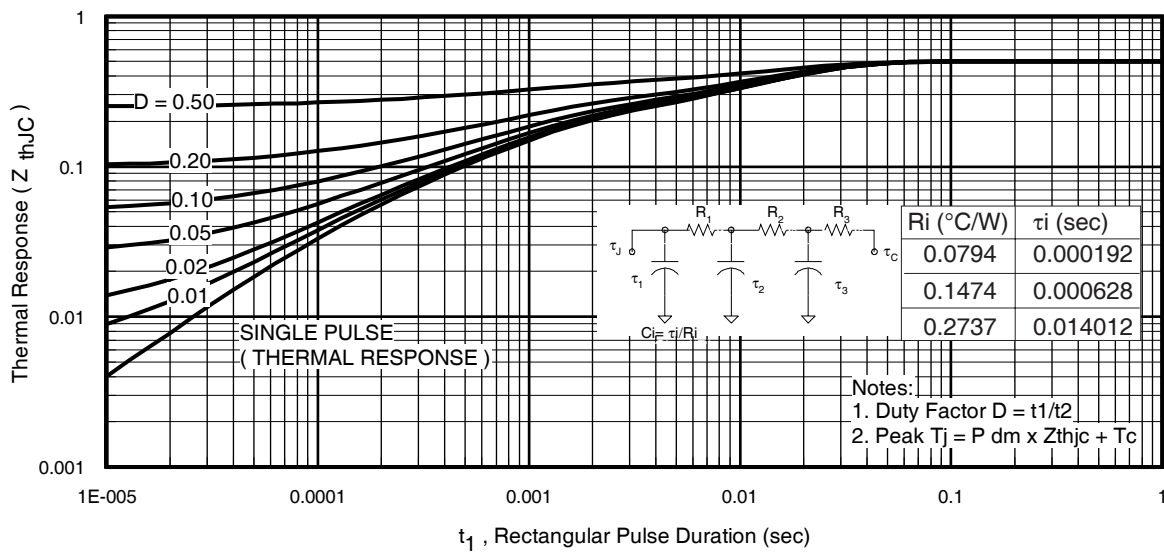

Fig 11. Maximum Effective Transient Thermal Impedance, Junction-to-Case
- ① Repetitive rating; pulse width limited by max. junction temperature. (See fig. 11).
- ② Limited by T_{Jmax} ; starting $T_J = 25^\circ\text{C}$, $L = 0.043\text{mH}$, $R_G = 25\Omega$, $I_{AS} = 140A$, $V_{GS} = 10V$.
$Z_{thJC}(D, t_{av})$ = Transient thermal resistance, see figure 11)